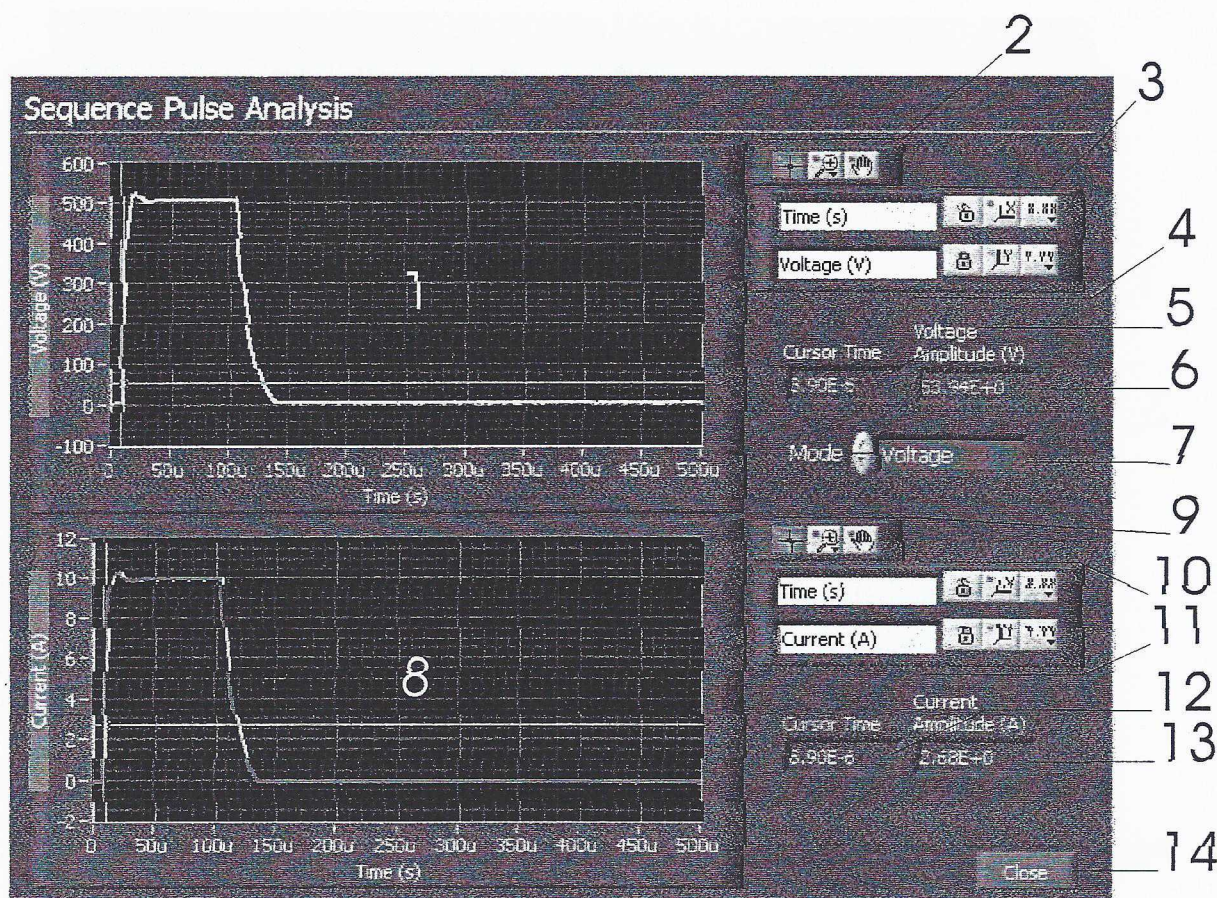

Figure 10. The Sequence pulse analysis Screen.
32. **Zoom** button. Leads to the **Sequence Pulse Analysis Screen**. (Figure 10).
Sequence Pulse Analysis Screen (Figure 10) presents: